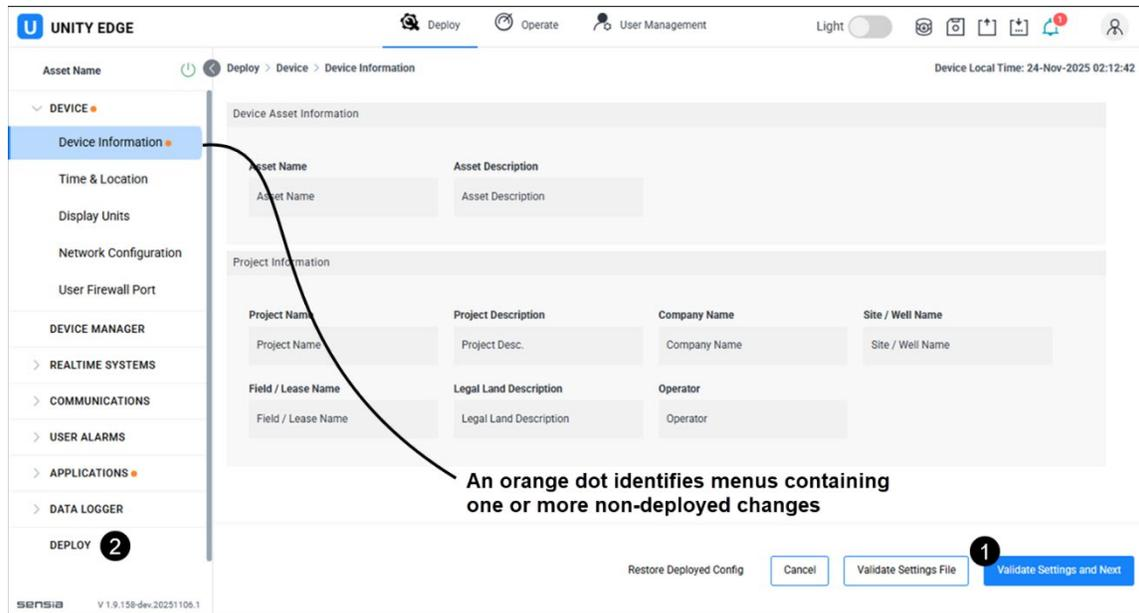

Figure 3.5—Two-step deployment process
2. Then use the Deploy wizard in the navigation tree on the left (item 2, Figure 3.5) to apply the changes to the HCC2. Until this step is complete, the HCC2 configuration will be unchanged.